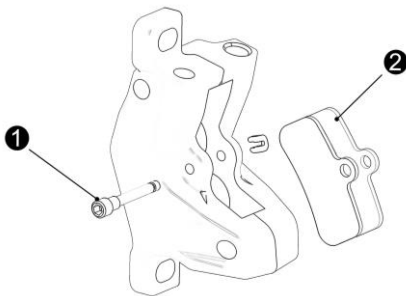

Fig 26
10.2.2 Replace brake shoe (see Fig 26)